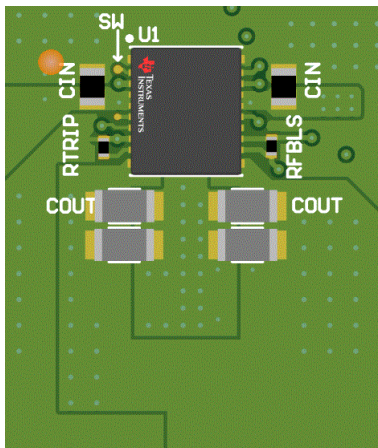

图 10-1. Recommended Layout Top Side
- See Figure 10-1 for the layout recommendation.